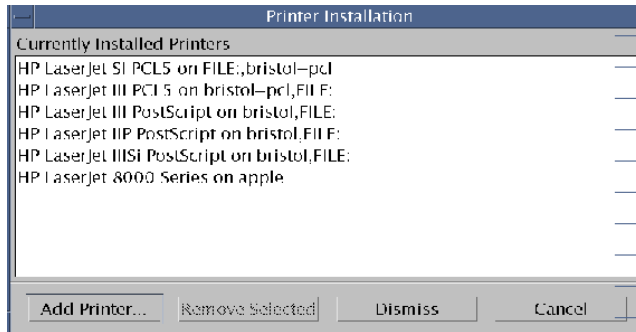

Figure B-3. Printer Installation Dialog Box
3. **Click *Install*.** This displays the Printer Installation dialog box (Figure B-3).